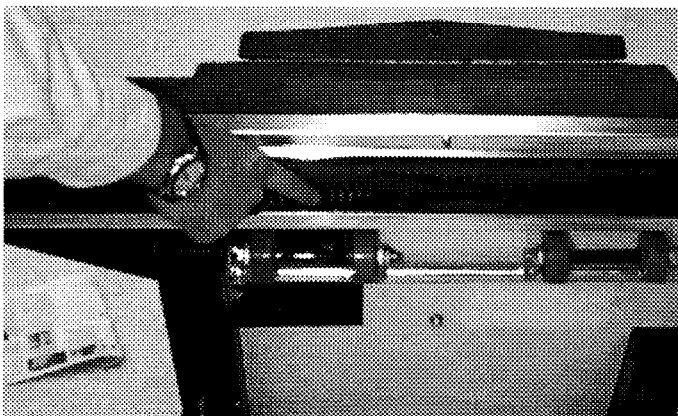

FIG. 9
1. Inspect intake chamber for any accumulated debris. Clean if necessary. *(Figure 9)*